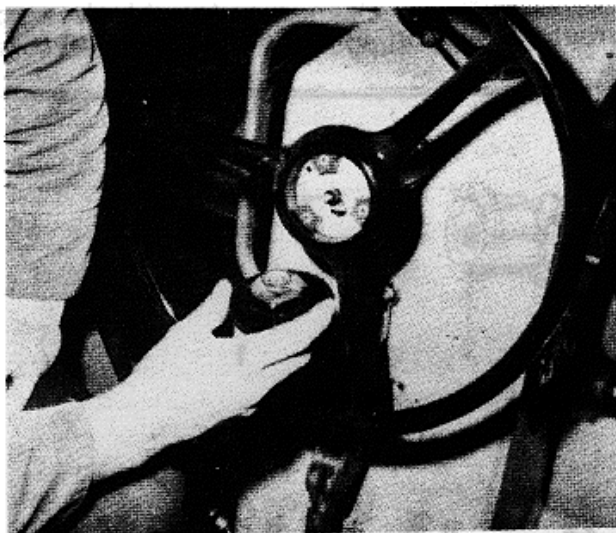

FIGURE 9-3.
a. Remove the horn cover and lock ring, then lift the horn button assembly from the steering wheel (see figure 9-3).